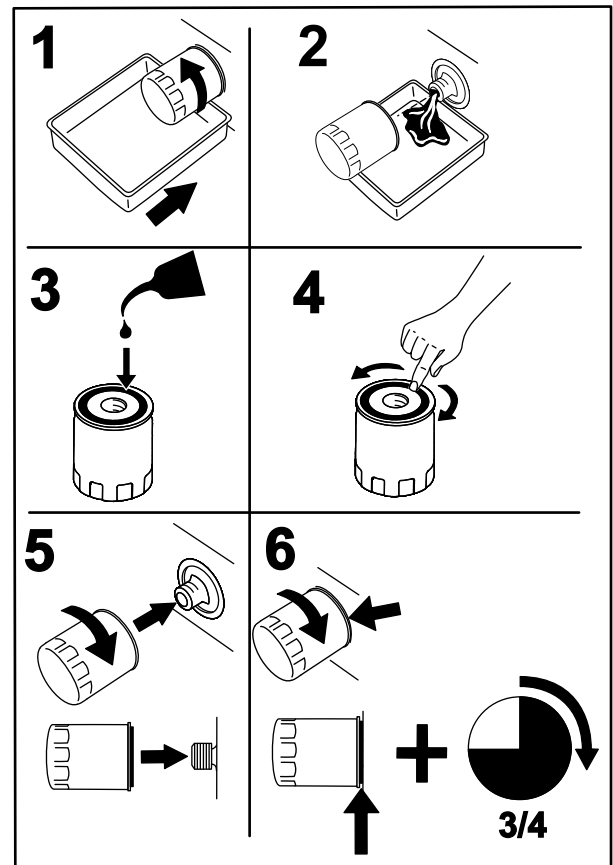

Figure 49
2. Change the engine oil filter (Figure 49).